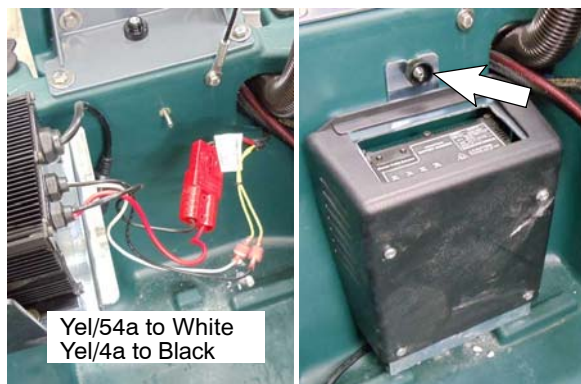

Fig. 5
5. Reconnect the red plug and harness wires to new charger and mount charger assembly in place (Figure 5).